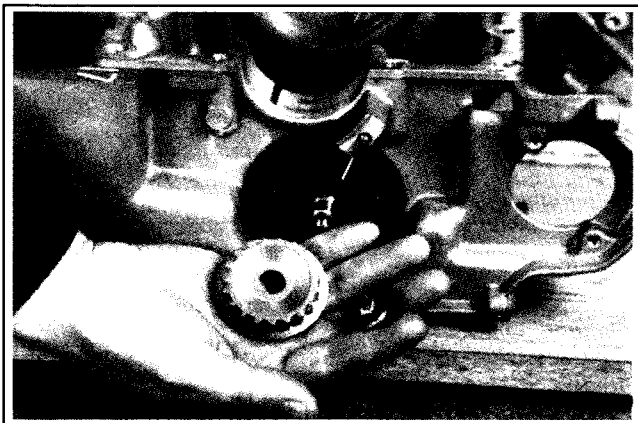

Figure 9-47. Oil Pump Gear Components.
2. Remove the drive gear from the pump shaft (a small gear puller may be necessary to pop it loose from the shaft). See Figure 9-47.